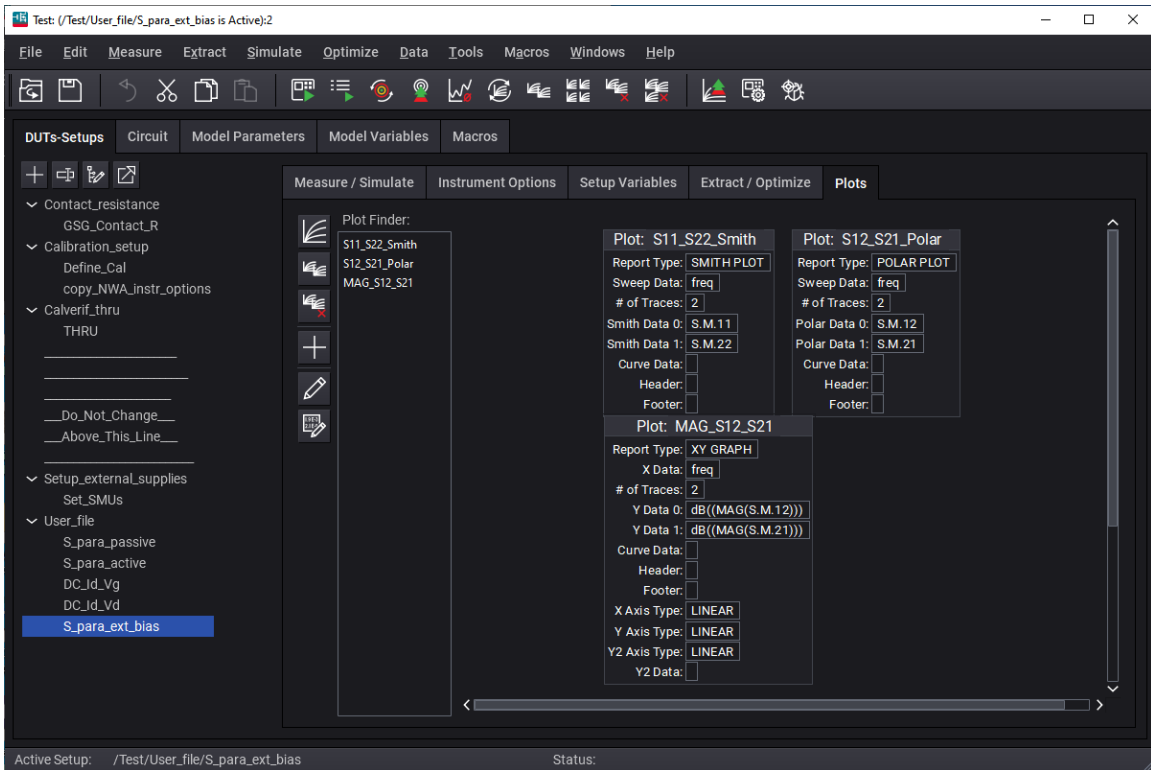
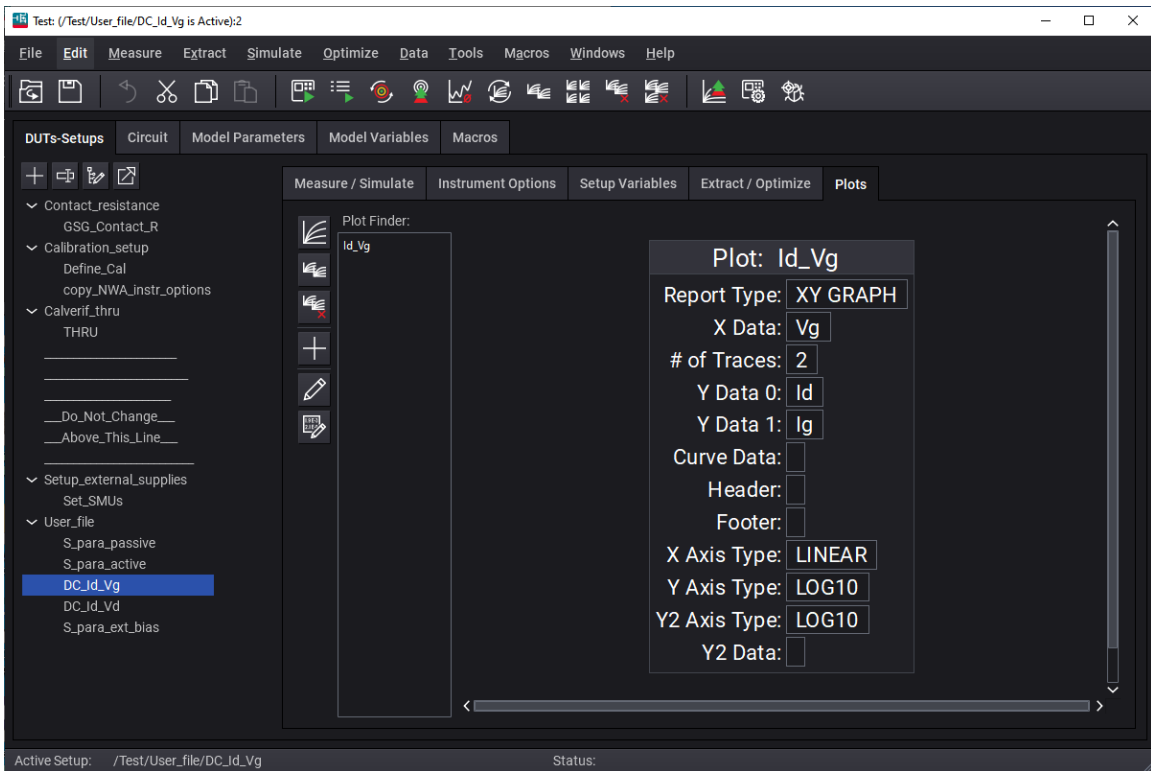
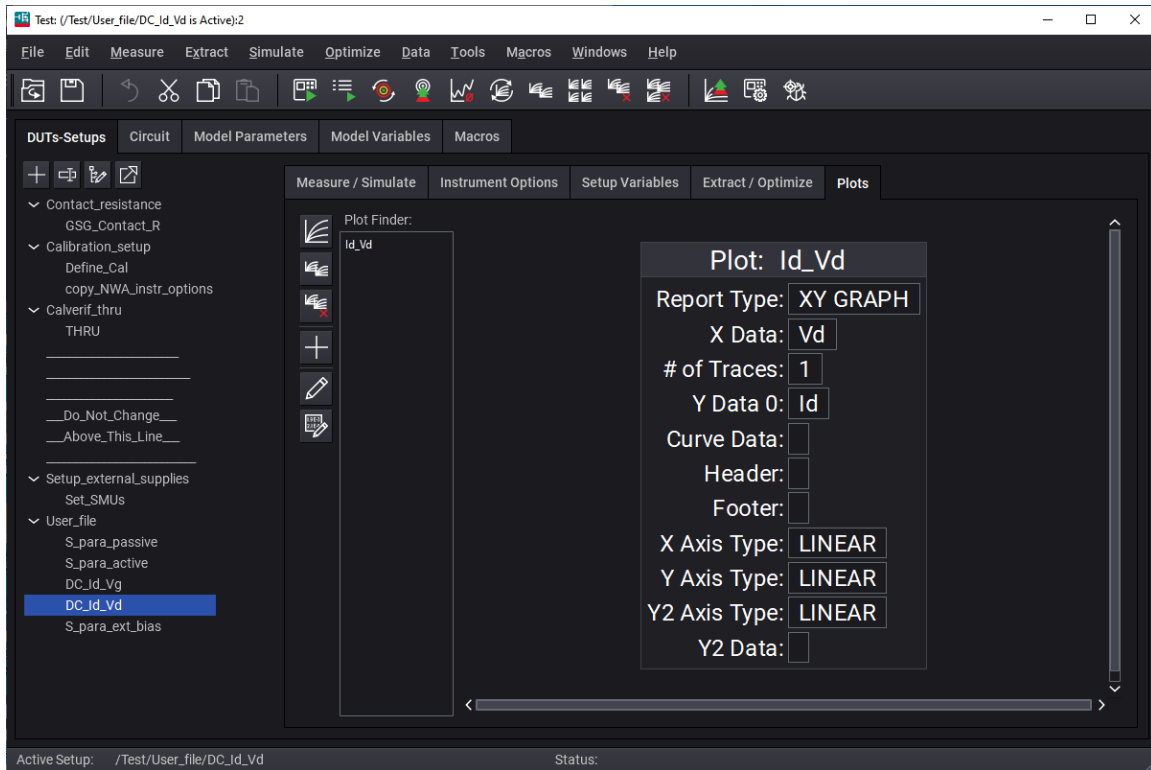

Fig. 8.7. Plotting measured S parameters.
Fig. 8.8. Plotting measured transfer characteristics of a transistor.
Fig. 8.9. Plotting measured output characteristics of a transistor.
- 8.16 After the message "Measurement done," check the data by clicking on "Plots" on the top menu and choose or customize the plot settings. Fig. 8.7 shows that "S11_S22_Smith" plots S_{11} and S_{22} on a Smith chart, "S12_S21_Polar" plots S_{12} and S_{21} on a polar chart, and "MAG_S12_S21" plots the frequency dependence of magnitudes of S_{12} and S_{21} on a log-log chart. Fig. 8.8 shows that "Id_Vg" plots the transfer characteristics of a transistor. Fig. 8.9 shows that "Id_Vd" is for plotting the output characteristics of a transistor.